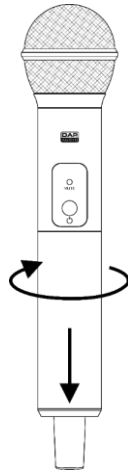

Fig. 10
- 01) Turn the PSS on by setting the **power switch (12)** to ON position.
- 02) Turn the microphone on by pressing and holding down the **power/mute switch (40)** for 3 seconds. The **LED status indicator (39)** will light up green.
- 03) Press the **UP/DOWN buttons (05/07)** in order to choose one of the 100 channels (see page 16 for the frequency range chart). Alternatively, press and hold down the **UP button (05)** for 6 seconds, for quick channel search. The **display (09)** will show:
- 04) Once you have chosen a channel, press and hold down the **UP button (05)** for 3 seconds. The currently chosen channel's number will start blinking.
- 05) Remove the battery cover (Fig. 10). **Otherwise it will not be possible to pair the devices.**